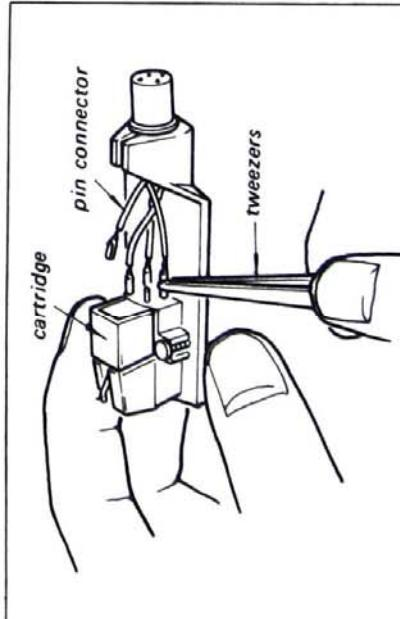

Fig. 2-8. Lead wire removal
2. Unplug the fourpin connectors at the cartridge as shown in Fig. 2-8.